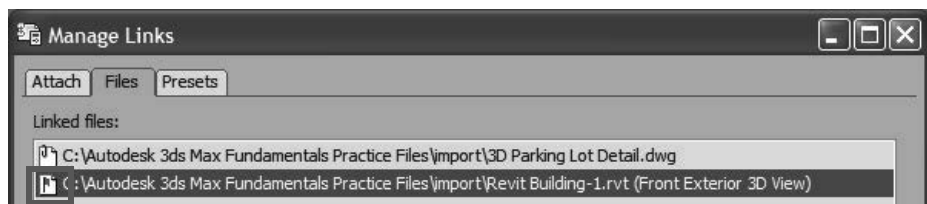

Figure 3-44
5. In the Manage Links dialog box, select the *Files* tab. Note that  displays in front of the .RVT filename (as shown in Figure 3-44), indicating that changes have been made to the original linked file.